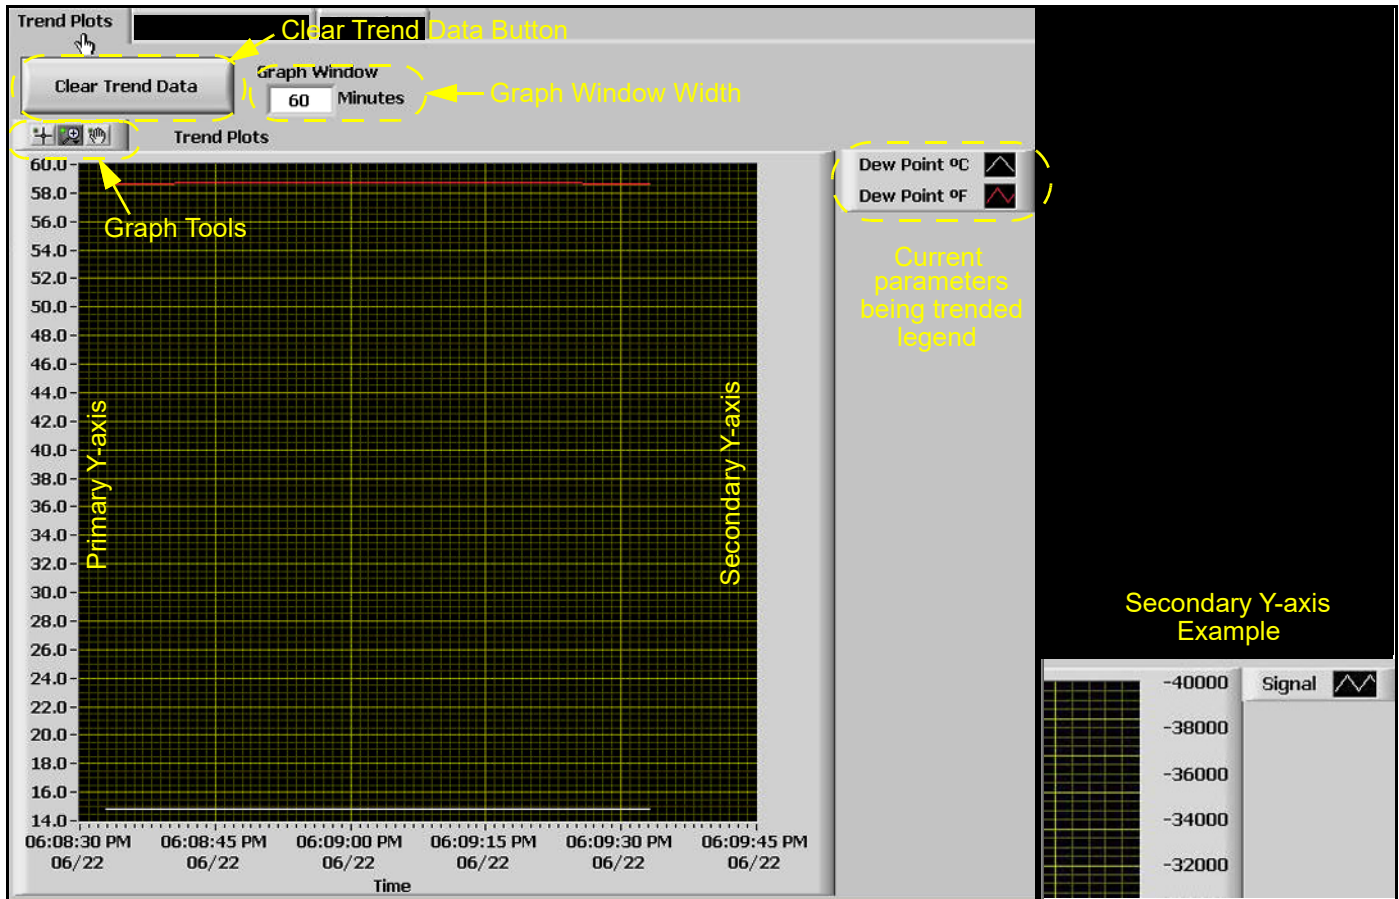

Figure 73: Using Trend Plots
1. Trend Plots is a powerful graphing feature in AuroraView. You can graph many parameters at the same time (see Figure 73 below).